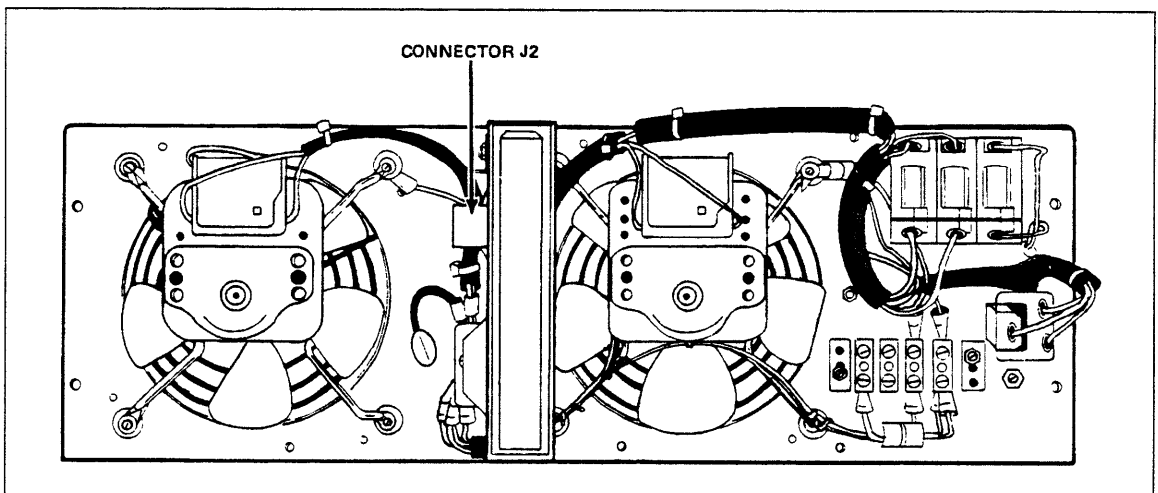

Figure 9-6. Inside Fan Assembly
2. Slowly pull out fan assembly until connector J2 is visible (figure 9-6).